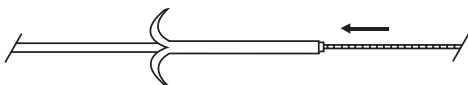

Fig. 2
2. With catheter tip straight, advance catheter over wire guide. (**Fig. 2**)